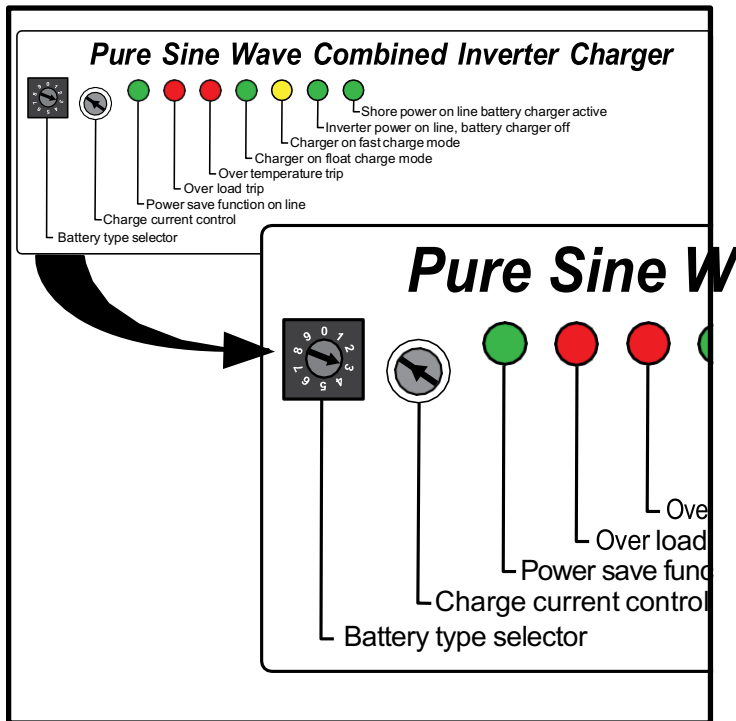

Figure 1-24
3. **Charge Current Control:** Should be set to a “10 o’clock” position. Use a small flathead screwdriver to rotate selector switch as needed. Be cautious not to break the plastic selector. (See *Figure 1-24*)